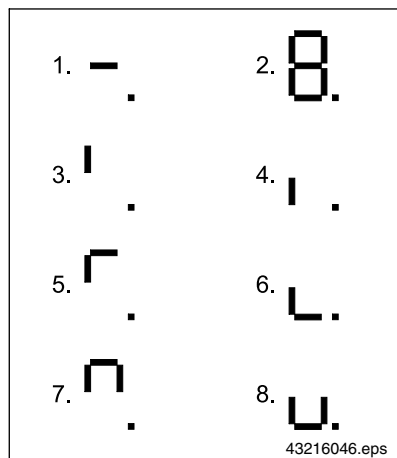

Fig. 12
- Operating statuses \Rightarrow Fig. 12, Page 32,